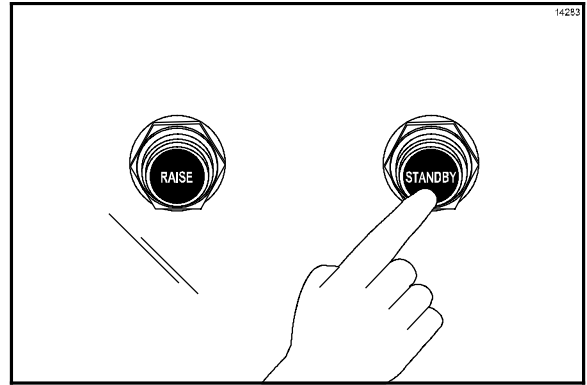

Figure 51
20. Press the black STANDBY button to lower the center platen. (See Figure 51.)